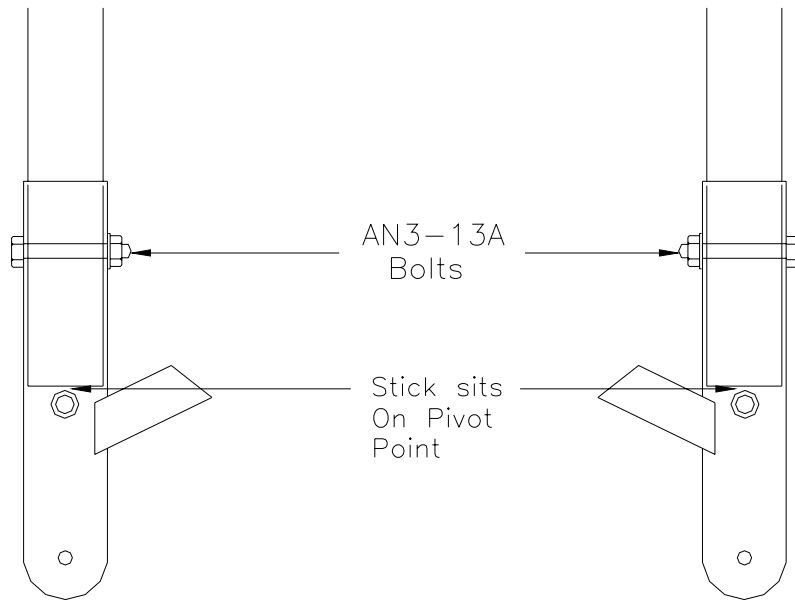

Figure 20.3.2
3) Drill a #11 hole through the control stick base and control stick. Bolt together with AN3-13A bolts, AN960-10 washers, AN365-1032 fiber nuts. Figure 20.3.2.